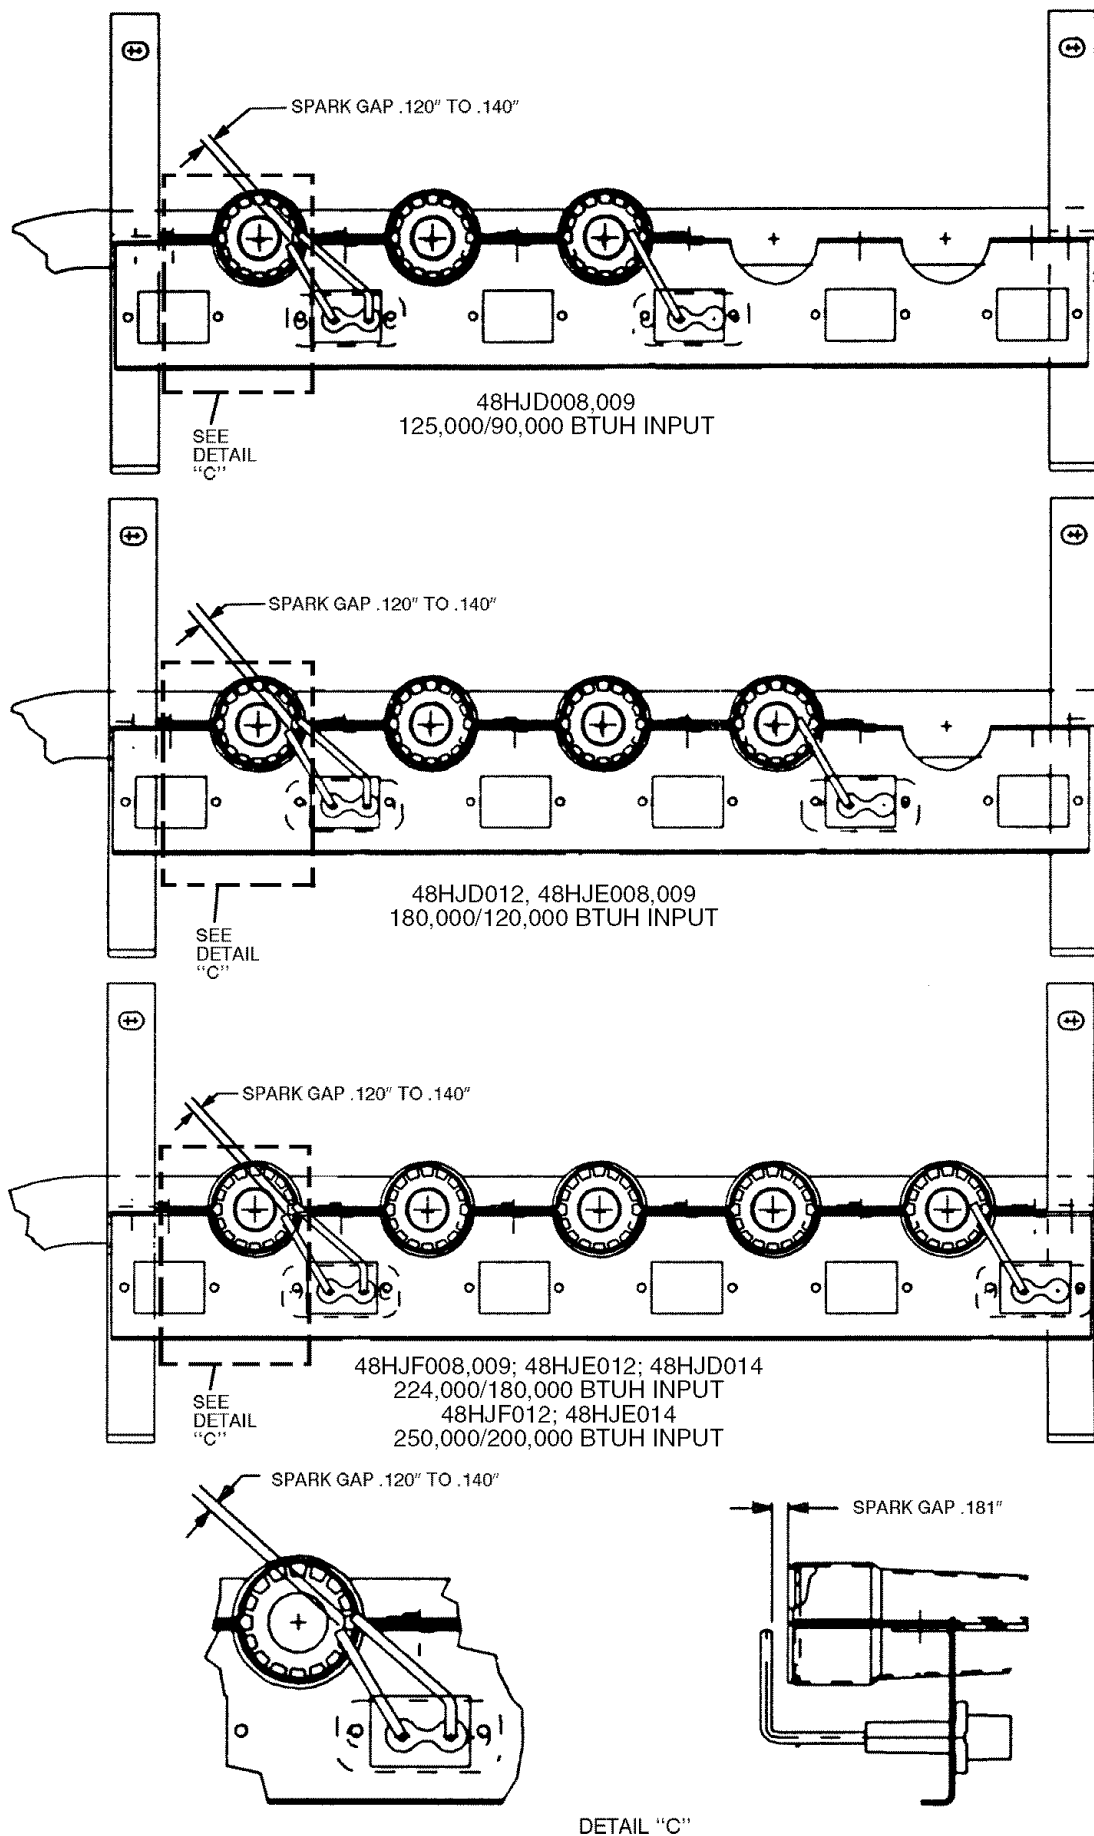

Fig. 66 — Spark Gap Adjustment
4. Adjust spark gap. See Fig. 66.